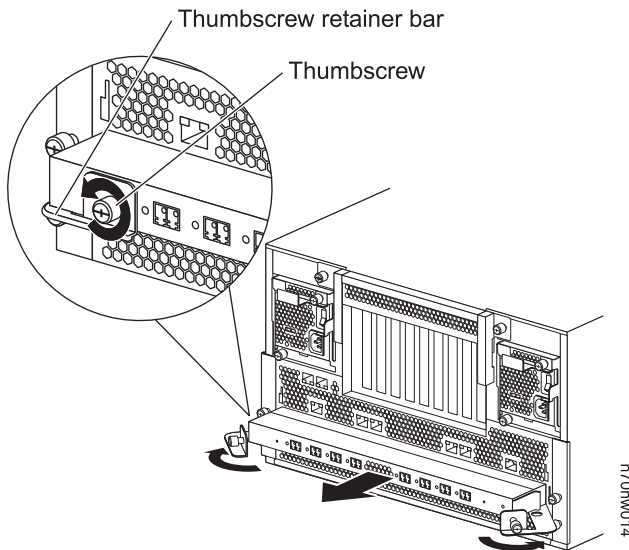

Figure 16. Removing the Fibre Channel tray
3. Loosen the thumbscrews on both ends of the Fibre Channel tray, and then swing the thumbscrew retainer bars away from the Fibre Channel tray. This pulls the tray slightly out of the chassis. See Figure 16.